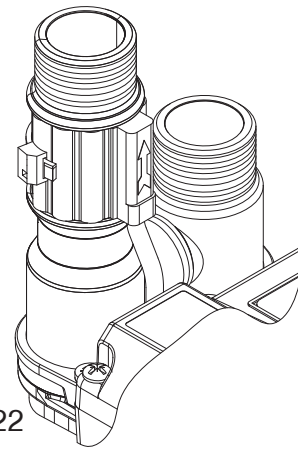

Fig. 22
- The tie wrap can now be pulled tight to secure the reed and excess cut to length as shown (Fig. 22)